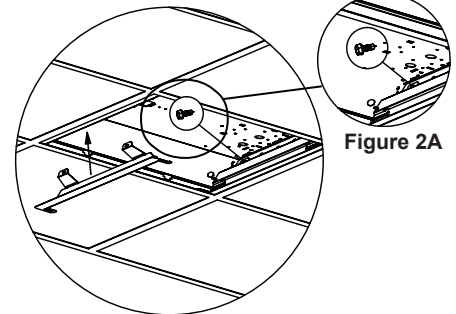

Figure 2
2. Install the two (2) end plates to each end of the existing luminaire by placing them between the fixture and T-grid. Secure them with four (4) self-tapping screws. (See Fig. 2, Fig. 2A)